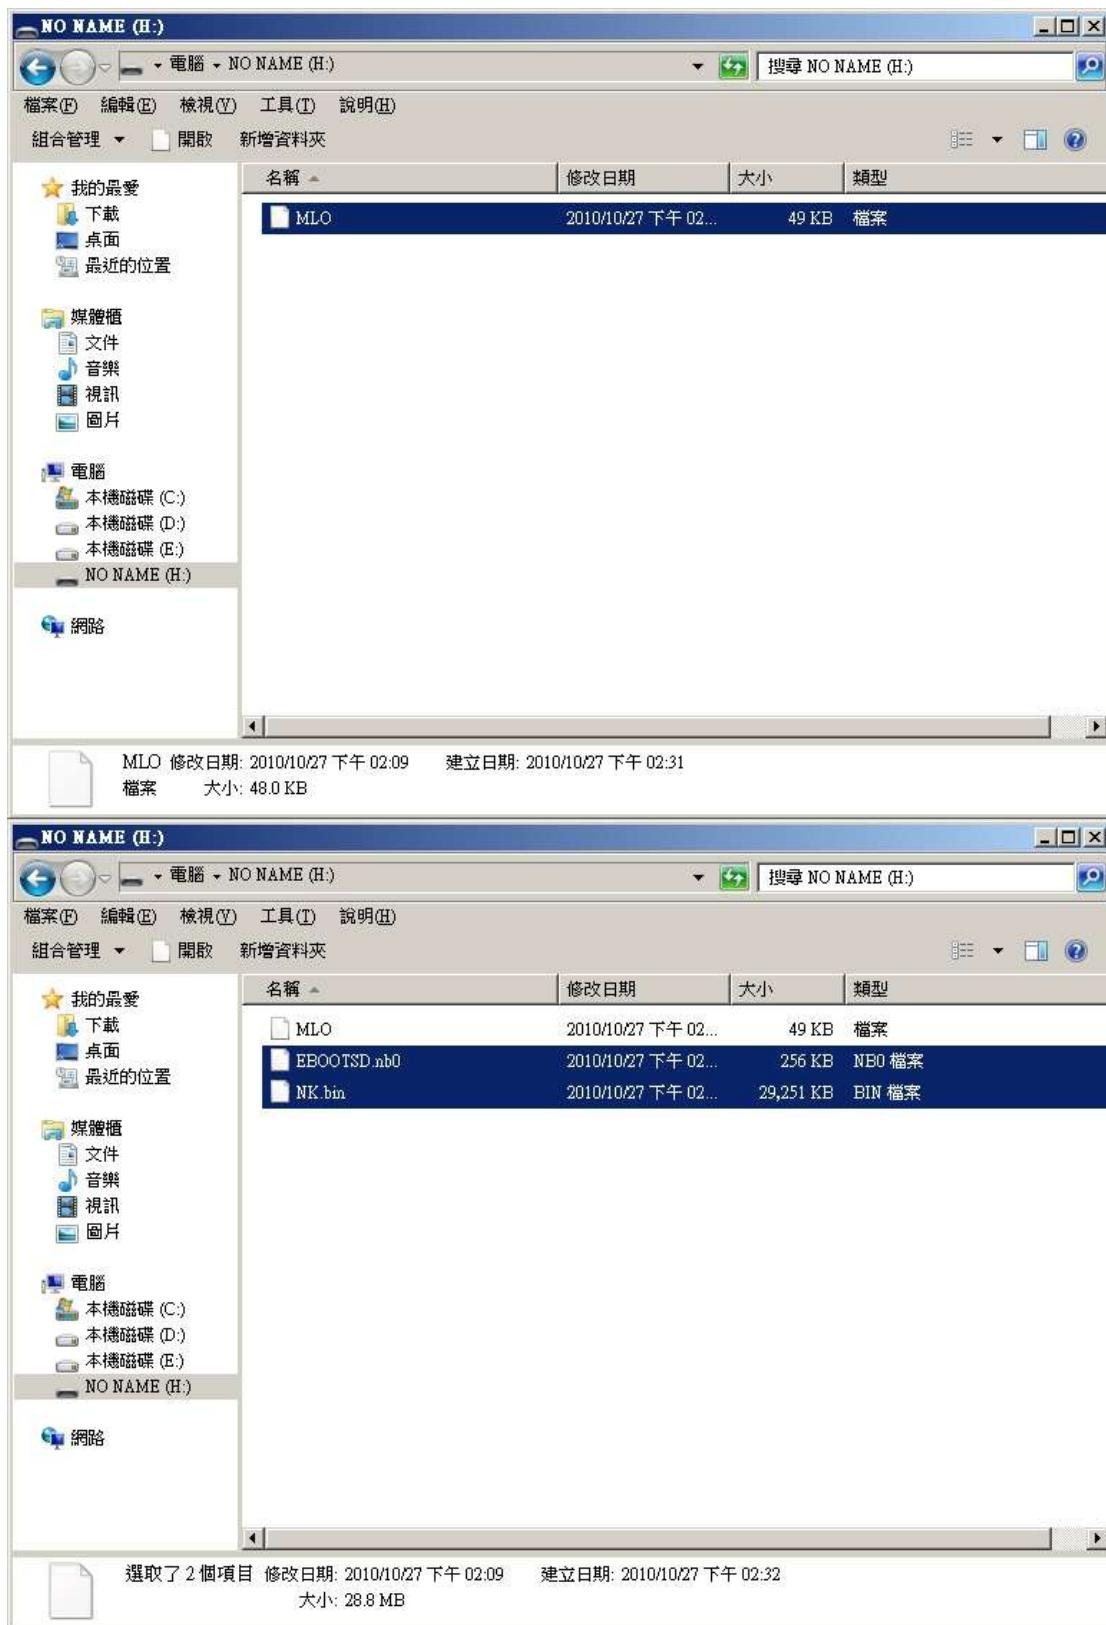

Figure 97
- Then copy "EBOOTSD.nb0" and "NK.bin" in the microSD card (See Figure 97)